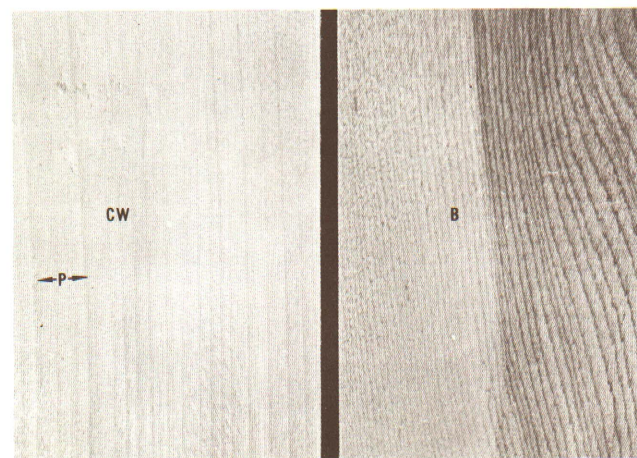

Figure 23 — Cottonwood, CW, with barely visible pores, P. Yellow birch, B, showing contrast between heartwood and sapwood.
29. Light reddish brown, hard, prominent tangential figure, pores can just be seen on tangential or radial surface (Fig. 23) ..... **Yellow Birch**
31. Wood with tangential figure, hard, pores can barely be seen on tangential or radial surface (Fig. 23) ..... **Yellow birch**